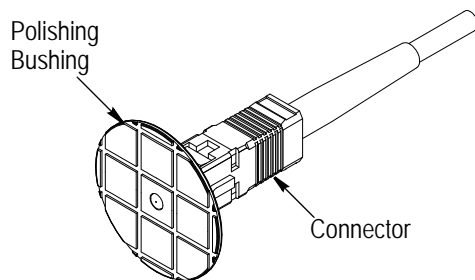

Figure 15
2. Install the connector onto polishing bushing. See Figure 15.